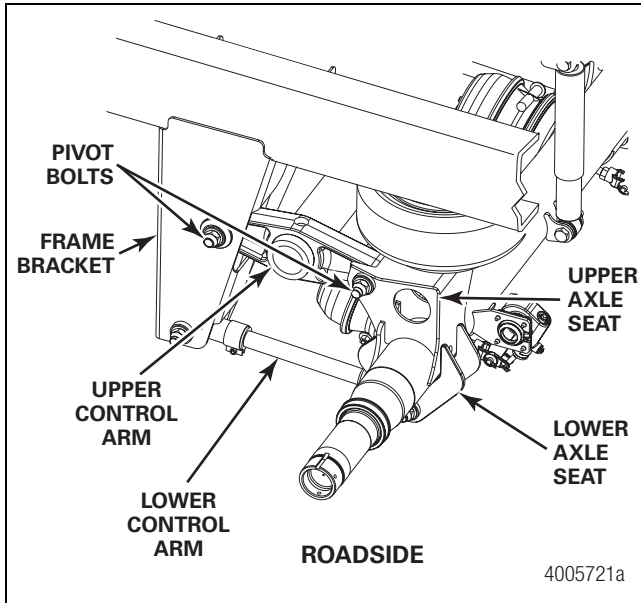

Figure 1
8. Use a jack to raise the axle approximately four-inches (107 mm). Disconnect the lower shock absorber bolt. Retain the bolt for reassembly. Rotate the shock absorber up and out of the way. Figure 1.